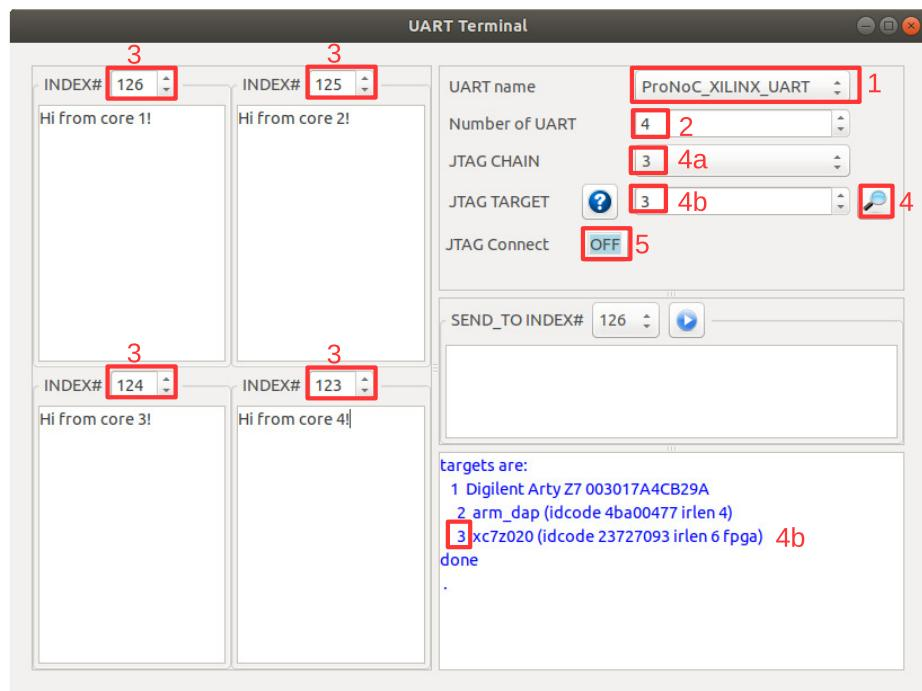

Figure 11.1: Uart terminal snapshot (Xilinx FPGA configuration).
UART Terminal	ProNoC includes an in-built GUI for UARTs terminal. To run the UART terminal run ProNoC and press <code>Ctrl+U</code> . You can also directly run this tool by running following commands in in linux terminal.  <code>cd mpsoc/perl_gui/lib/perl perl uart.pl</code> Figure 11.1 illustrates the snapshot of the UART GUI.The following settings are required in order to connect to UART modules:
- (b) For Xilinx FPGAs you need to set the FPGA device target number in the JTAG chain. Figure 11.1 shows an example for Digilent Arty-Z7 XILINX FPGA board. The FPGA device is `xc7z020` which is the 3rd target in jtag chain.